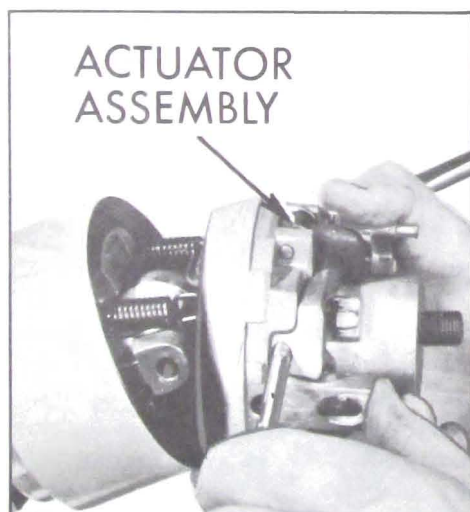

Figure 8-79—Removing Actuator Assembly
11. Lift tilt wheel release lever to disengage lock shoes from the support and remove actuator assembly. See Figure 8-79. Remove tilt springs.